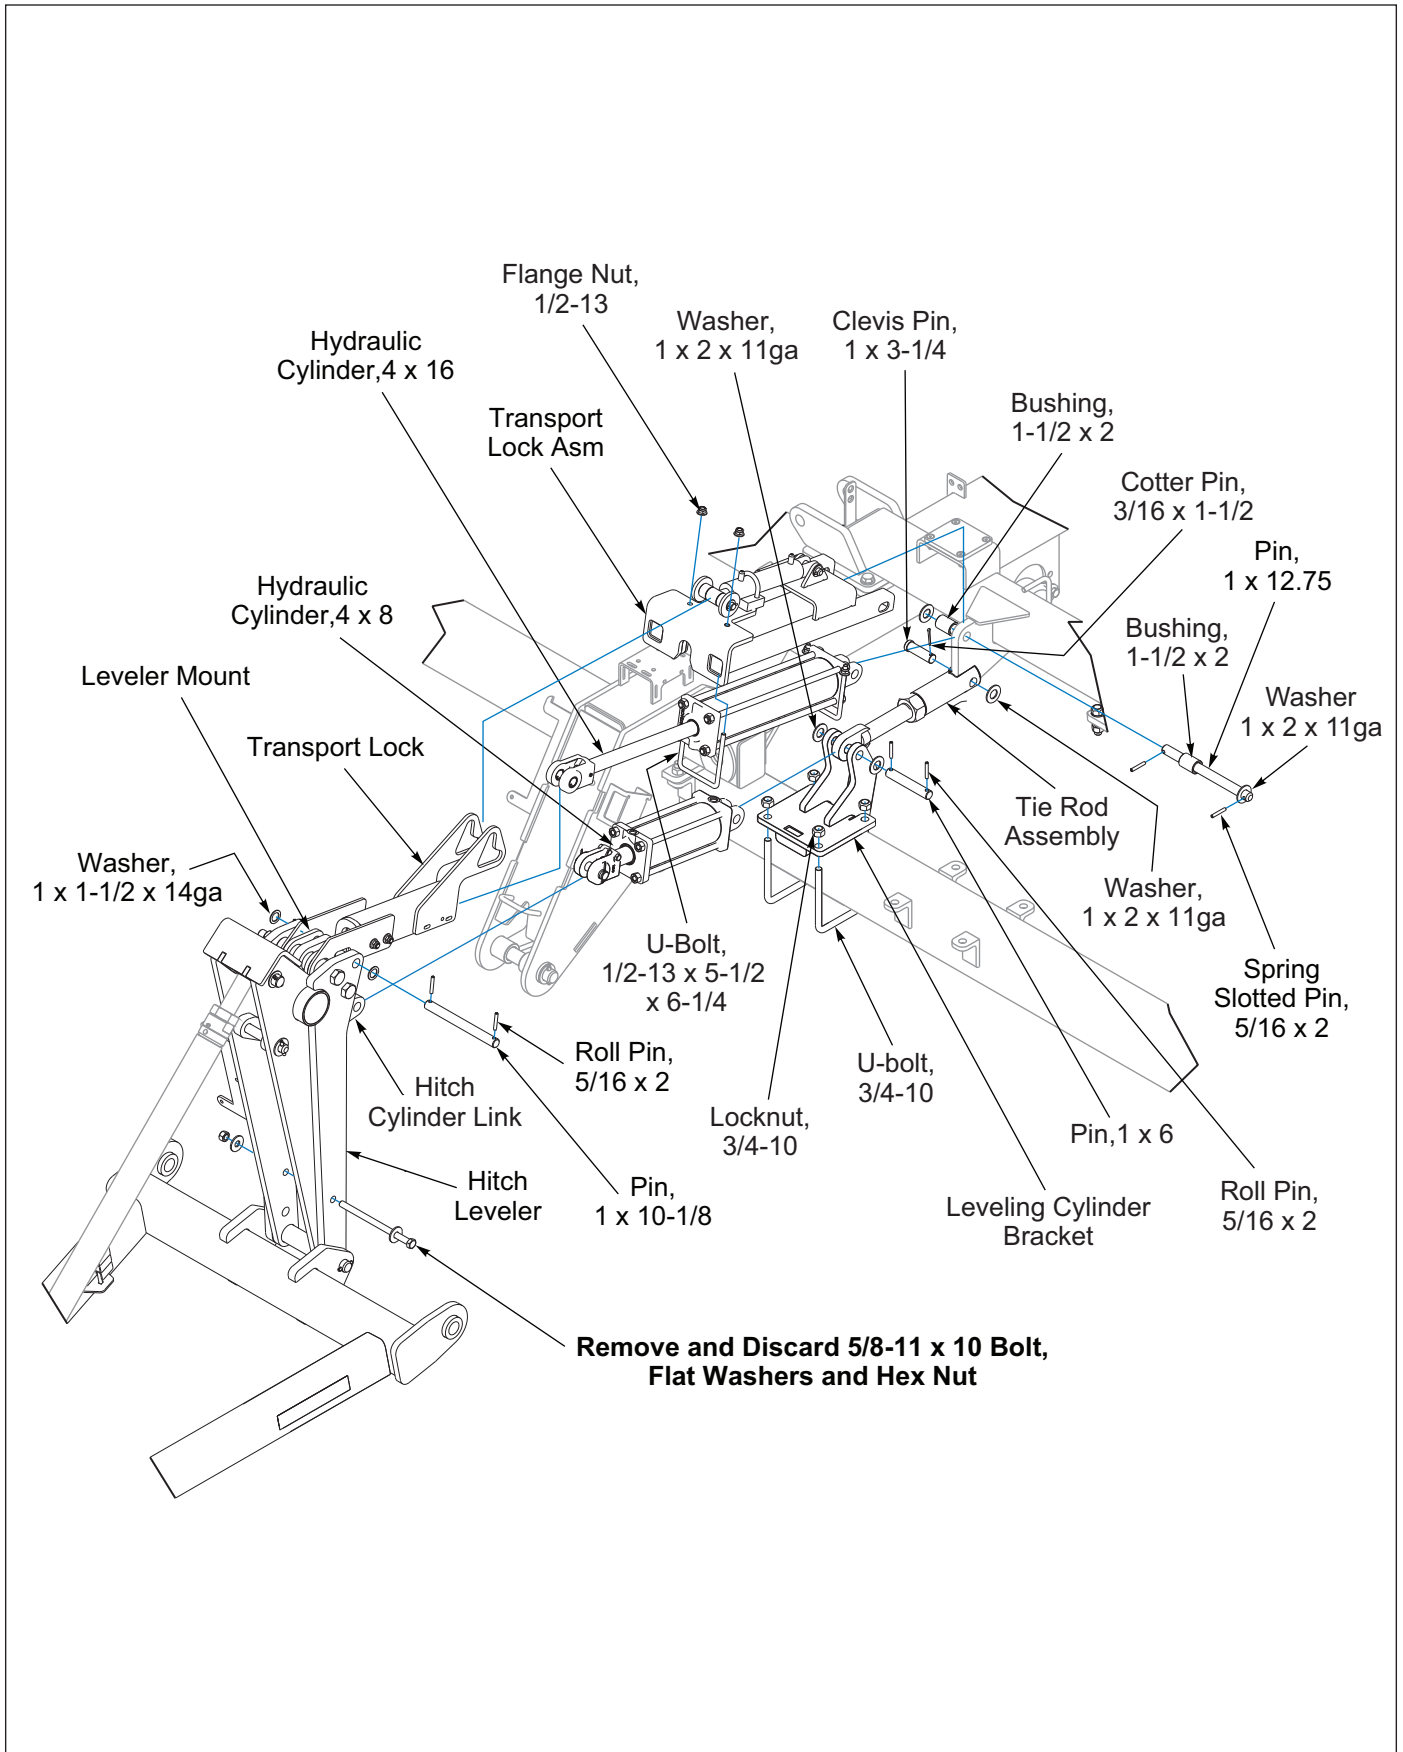

Figure 2-14: Drawbar Leveler
1. Assemble the Leveling Cylinder Bracket to the center of the Front Roller Frame Tube with 3/4-10 U-Bolts and Locknuts. **Do Not** Tighten at this time. **See Figure 2-14.**